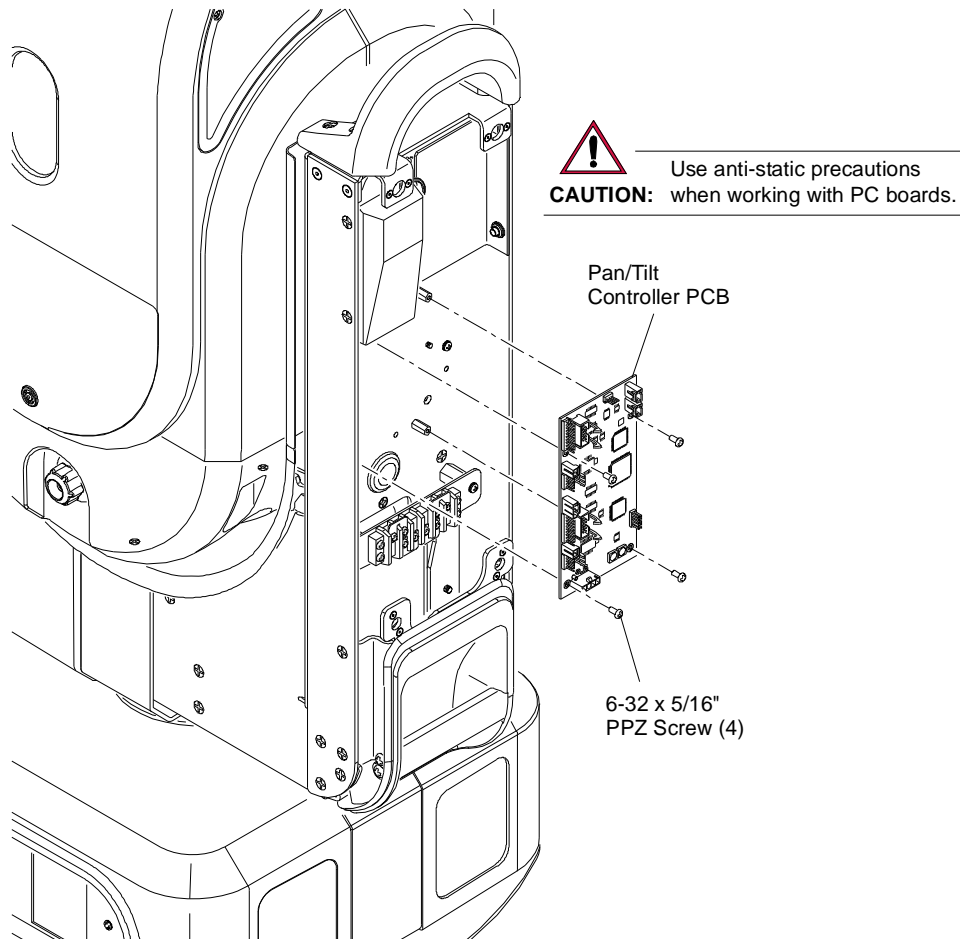

Figure 3-37: Removing Pan/Tilt Controller PCB
- Step 4. Remove Pan/Tilt Controller PCB by removing four 6-32 x 5/16" PPZ screws (**Figure 3-37**).